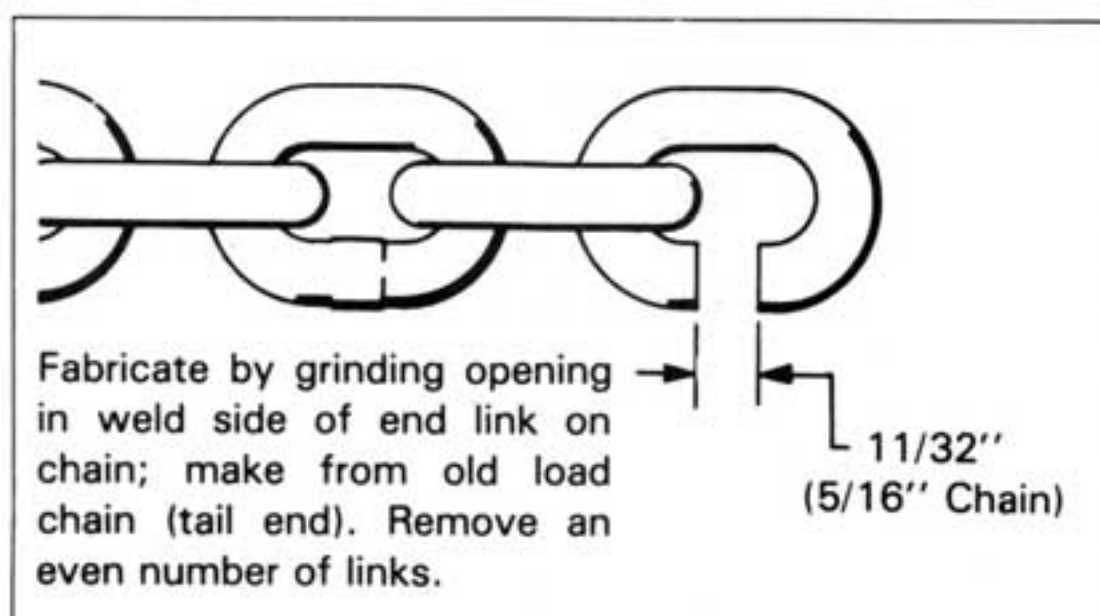

Figure 5-3. Open "C" Link for Removing and Installing Coil Load Chain.
(3) Removing and Replacing Coil Load Chain.
- (a) Replacement coil load chain is installed by attaching it to tail end of old chain, after disconnecting old chain from side of hoist frame and removing limit actuator. New chain is then run into hoist as old chain is run out. Use open "C" links, Figures 5-3 and 5-4, for attaching chains. Links must be identical in size to hoist chain — 5/16" wire size with .858" pitch length for all models. Be certain that all welds on links of replacement chain face away from center of load sprocket.